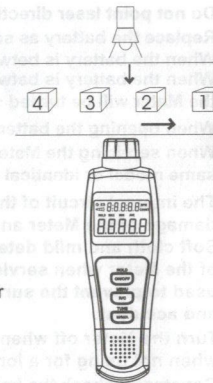

Figure 5
Receiving Light Source Outside (See Figure 5)
- Locate the Meter, objects under counts and light source as shown in Figure 5